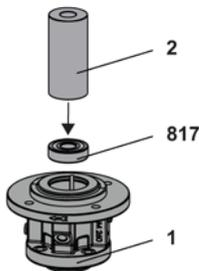
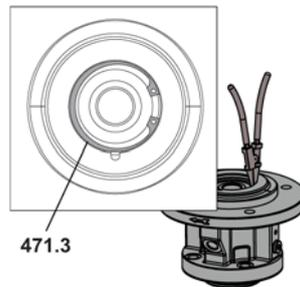

Fig. 16
Fig. 17
2. Use the ball bearing mounting sleeve **2** to press the ball bearing **817** into the flange cover **1**, see Fig. 16, and fasten using the circlip **471.3**, see Fig. 17.